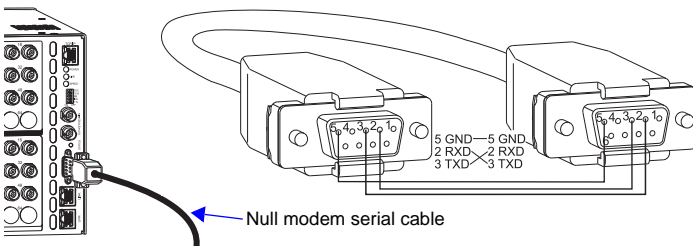

FIG. 8 Attach null modem serial cable (use pinout provided)
- Plug the null modem cable (see FIG. 8 for pinout) into the serial port (DB-9) on the primary enclosure (the one with the control panel).